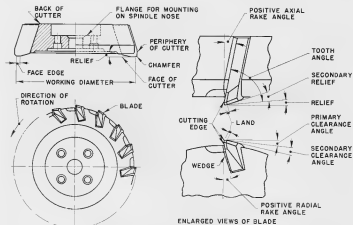
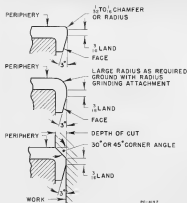

Figure 36A
Figure 36B
Drawings of inserted cutter teeth are shown in Figure 36A. The enlarged section of the blade, Figure 36B, shows three types of corners for shell end mills and face mills.
3. Swivel the workhead in the horizontal plane to the corner angle desired as shown by the graduations on the base. 45° is the most common (Figure 36B)